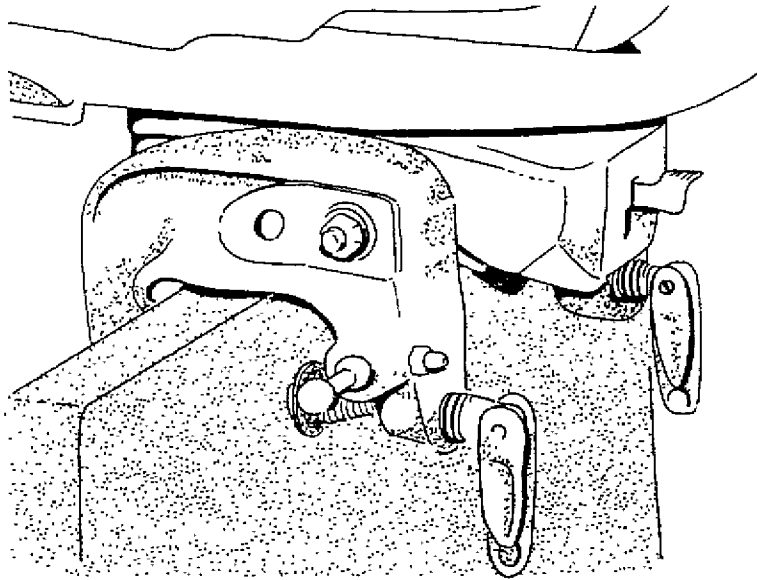

Figure 7:1
- 7.07 A safety chain must be attached. The chain must be of 8mm diameter or greater, and should be attached to a strong point in the boat and a strong point on the motor, preferably to a safety chain bracket attached to the pivot bolt (see Fig 7:1). No free play should be left in the chain in order to prevent the motor jumping off the transom and kicking up to injure the crew.